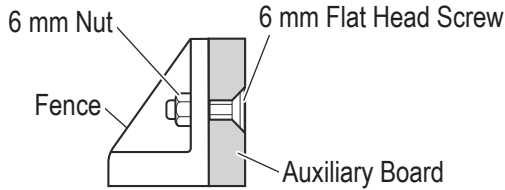
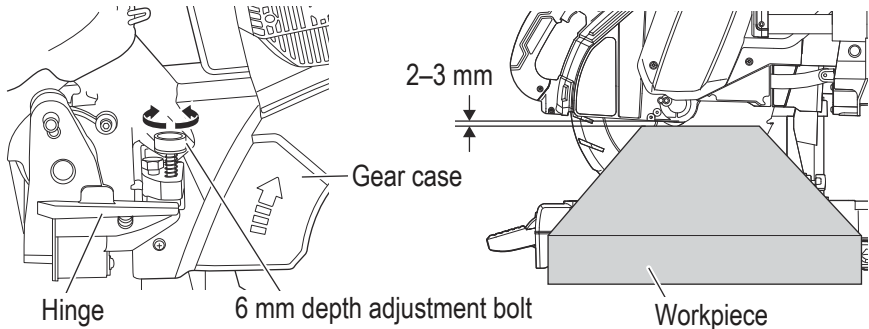

Fig. 23
Fig. 24
6. Cutting large workpieces (Fig. 23, Fig. 24)
There may be case when a complete cutting cannot be done depending on the height of workpiece. In this case, mount an auxiliary board with the 6 mm flat head screws and the 6 mm nuts using the 7 mm holes on the fence surface (two holes on each side). (Fig. 23) Refer to "SPECIFICATIONS" for the thickness of the auxiliary board.
To adjust the lower limit position of the saw blade, follow the procedure (1) shown in Fig. 24.
- (1) Lower the motor head, and turn the 6 mm depth adjustment bolt and make adjustments so that there can be a clearance of 2 mm to 3 mm between the lower limit position of the motor head and the top of the workpiece at the saw blade's lower limit position where the tip of the 6 mm depth adjustment bolt contacts the hinge.